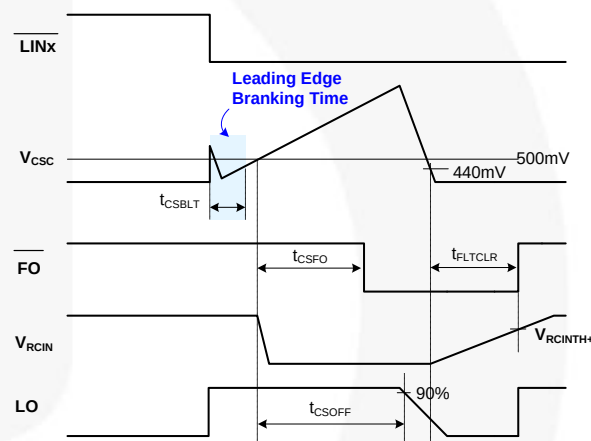

Figure 43. RCIN and Fault-Clear Waveform Definition
Figure 43 shows the waveform definitions of RCIN, FO, and the low-side driver; which uses a soft turn-off method when an under-voltage condition of the low-side gate driver supply voltage (V_{DD}) or the current-sense pin (CS) recognizes a fault. If a fault condition occurs, the FO Pin is internally pulled to COM and all outputs (HO1,2,3 and LO1,2,3) of the gate driver are turned off. Low-side outputs decline linearly by the internal sink current source ($I_{SOFT}=40\text{ mA}$) for soft turn-off, as shown in Figure 43.